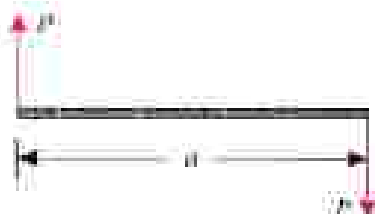

Fig 1.28
- The perpendicular distance (a), between the lines of action of the two equal and opposite parallel forces, is known as arm of the couple as shown in Fig. 1.28.